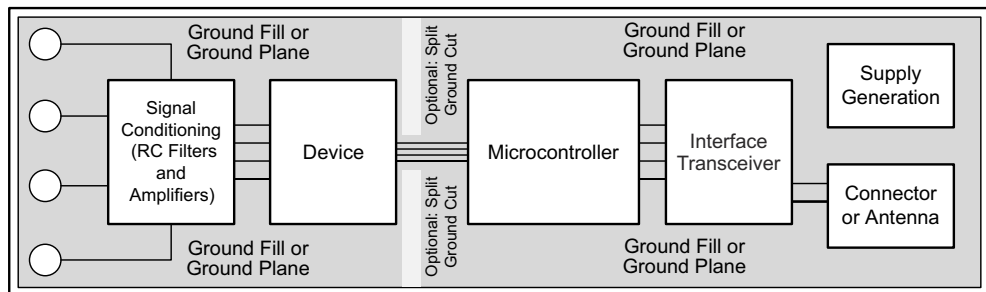

Figure 8-10. System Component Placement
Employ best design practices when laying out a printed-circuit board (PCB) for both analog and digital components. For optimal performance, separate the analog components [such as ADCs, amplifiers, references, digital-to-analog converters (DACs), and analog MUXs] from digital components [such as microcontrollers, complex programmable logic devices (CPLDs), field-programmable gate arrays (FPGAs), radio frequency (RF) transceivers, universal serial bus (USB) transceivers, and switching regulators]. An example of good component placement is shown in Figure 8-10. Although Figure 8-10 provides a good example of component placement, the best placement for each application is unique to the geometries, components, and PCB fabrication capabilities employed. That is, there is no single layout that is perfect for every design and careful consideration must always be used when designing with any analog component.